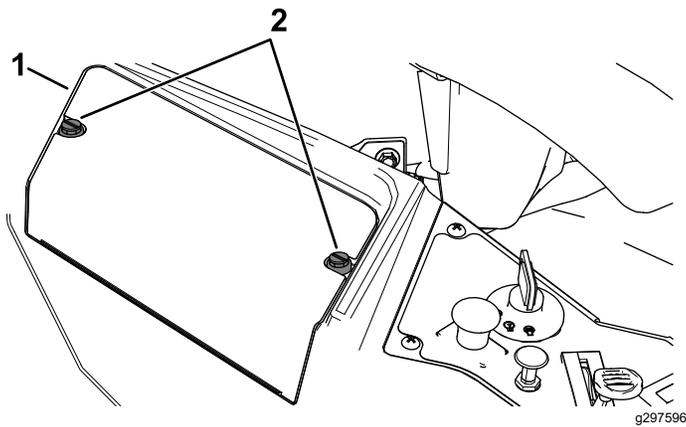

Figure 45
3. Loosen the 2 fasteners on the battery cover counterclockwise 1/4 turn, and remove the battery cover (Figure 45).
6. Install the battery cover by pushing down and tightening the 2 fasteners clockwise (Figure 45).